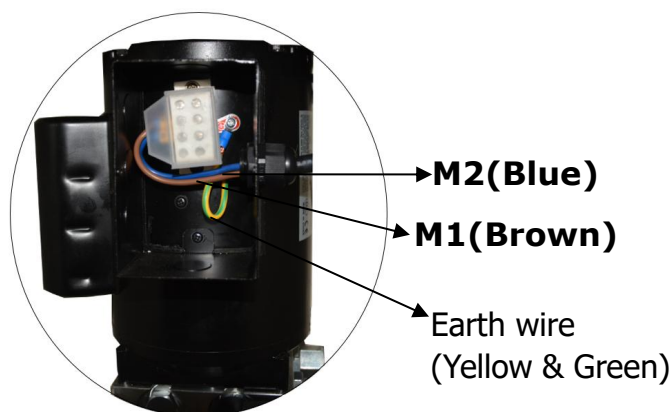

Fig.32
2.3 380V Circuit diagram (See Fig. 32)
3.2 Wire connection of single phase hydraulic power unit(See fig.32)